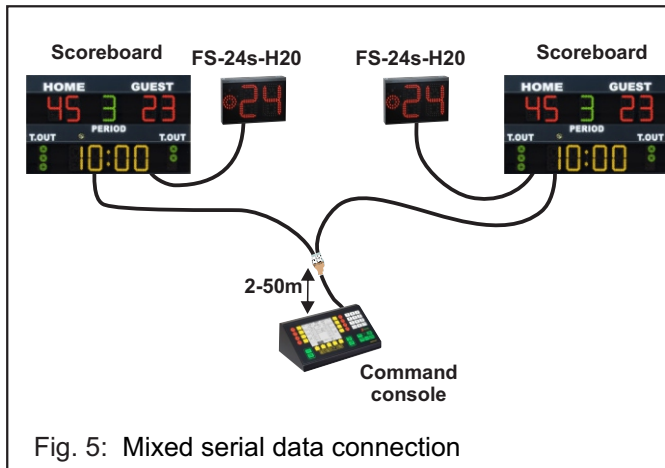

Fig. 5: Mixed serial data connection
3. Mixed connection of methods 1 and 2 above. An example is shown in Fig. 5, where the serial data output ports of the scoreboards are used for connecting to the 24-seconds shot clocks.